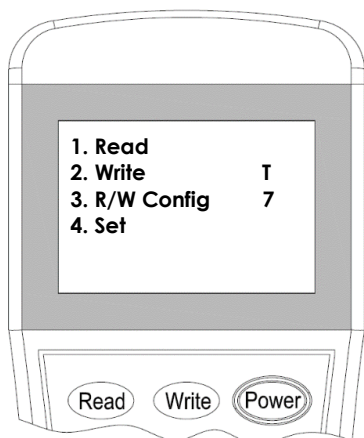

Figure 10
2. Switch-on the programmer, then press button **“3”** to enter to **Configuration mode** (Figure 10).